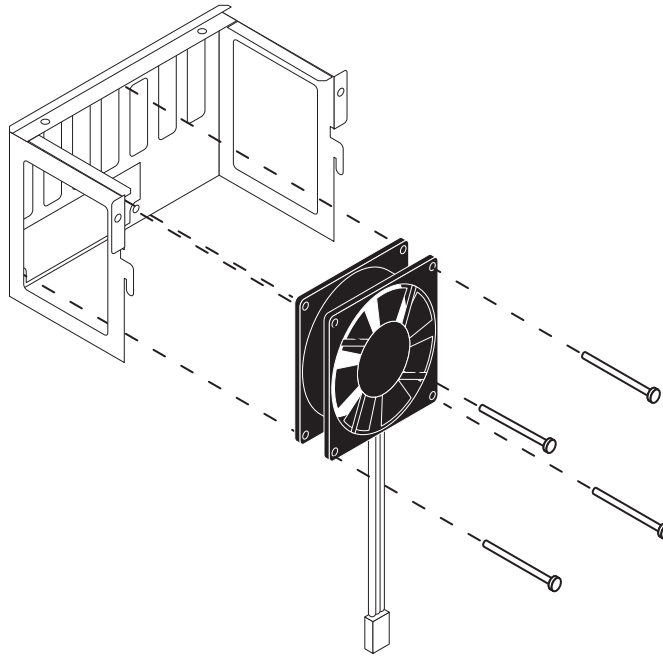

FIGURE 4-23 Removing the front fan
4. **Unhook and remove the board guide (with front fan attached) from the chassis (see Figure 4-23 on page 4-46).**